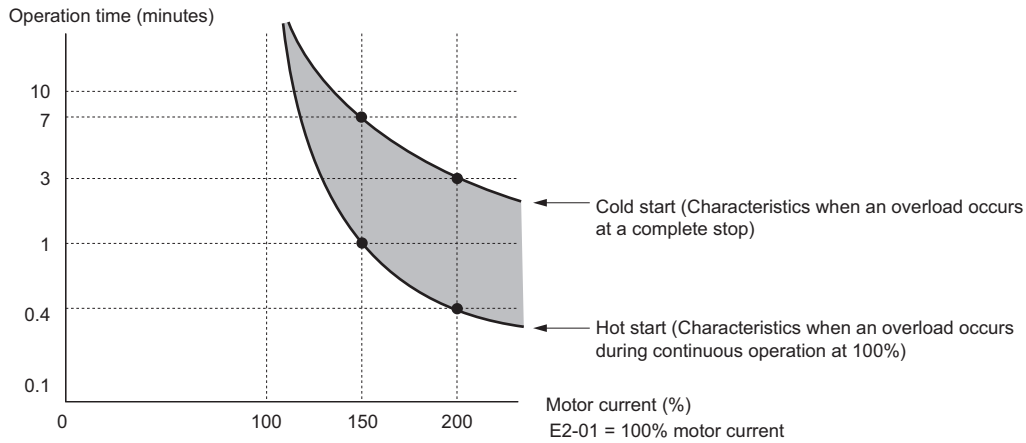

Figure 5.89 Protection Operation Time for General Purpose Motors at the Rated Output Frequency
- **Figure 5.89** shows an example of the electrothermal protection operation time using a general-purpose motor operating at 50 Hz with L1-02 set to one minute.